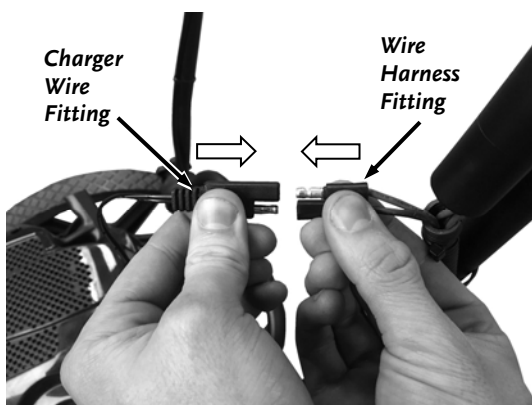

Figure 42
2. Line up the Fitting from the Charger Wire with the Fitting from the Trimmer Wire Harness and connect the Fittings together (**Figure 42**).